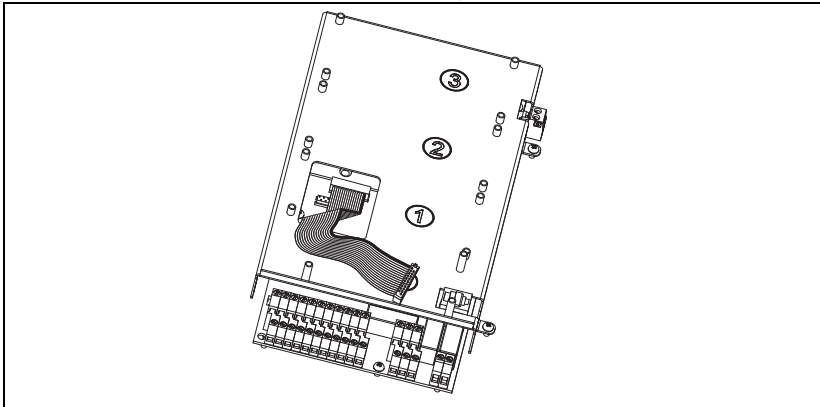

Fig. 5 Flat cable connected to the control board.
1. Connect the 16-pole flat cable (75 mm) to the X5 connector on the control board with the cable downwards as in Fig. 5